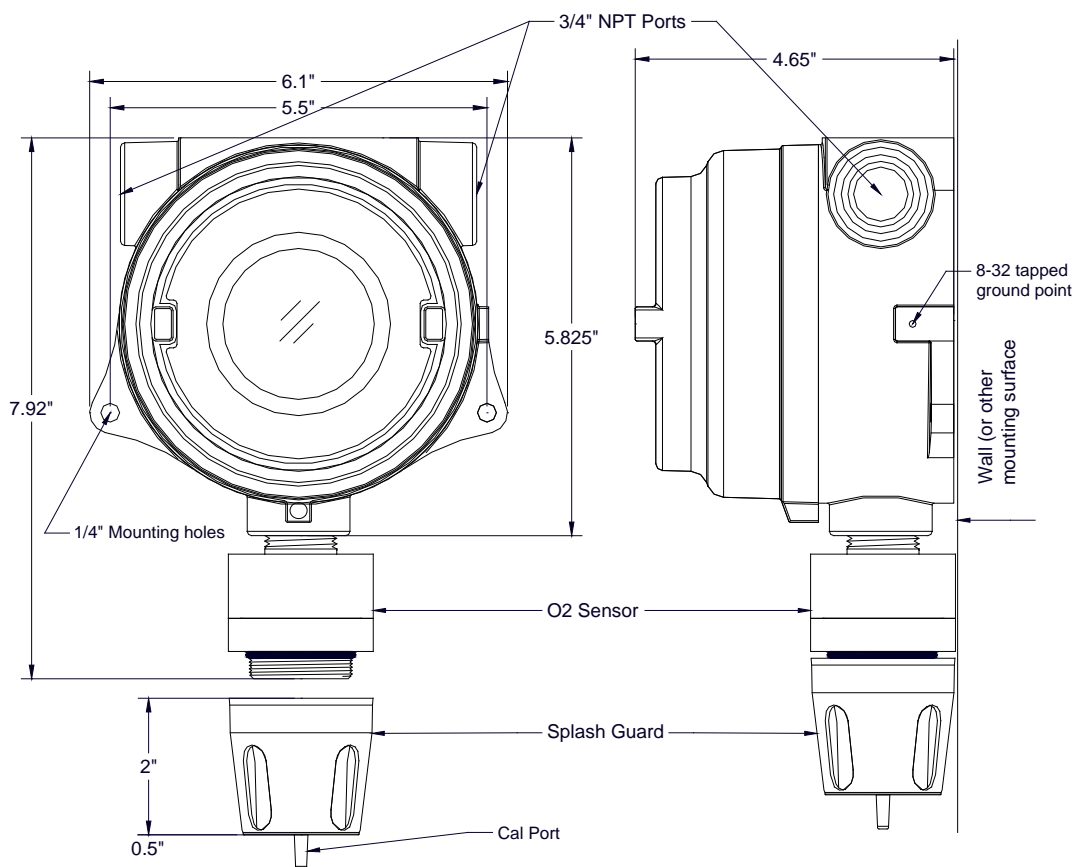

Figure 7 Typical Outline and Mounting Dimensions
- Securely mount the sensor junction box in accordance with recommended practice. See dimensional drawing (Figure 7).